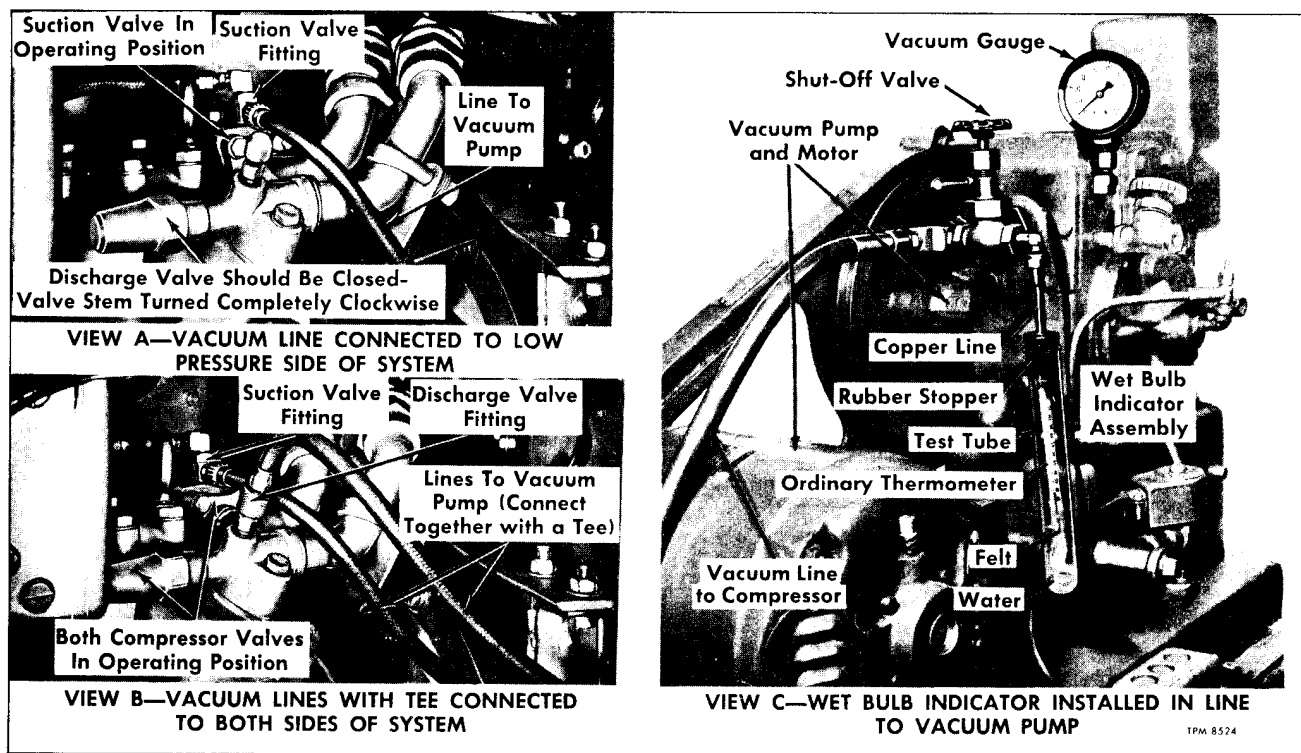

Figure 83—Evacuating the Refrigerant System
2. Connect one vacuum line to test gauge fitting at top of compressor suction valve, and the other to the compressor discharge valve test gauge fitting as shown in view B, figure 83.
3. Tee a branch line with a wet bulb indicator into vacuum line at pump as shown in view C, figure 83. **NOTE:** Wet bulb indicator can be impro-
1. Connect only one vacuum pump line to the test gauge fitting at top of compressor suction valve as shown in view A, figure 83.